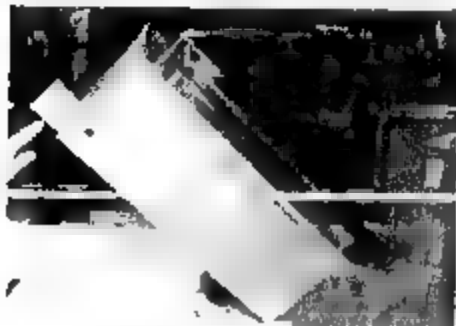

Fig. 18
**Fold-Over** - Swing the cabinet into place on the base cabinet. See Fig. 18.